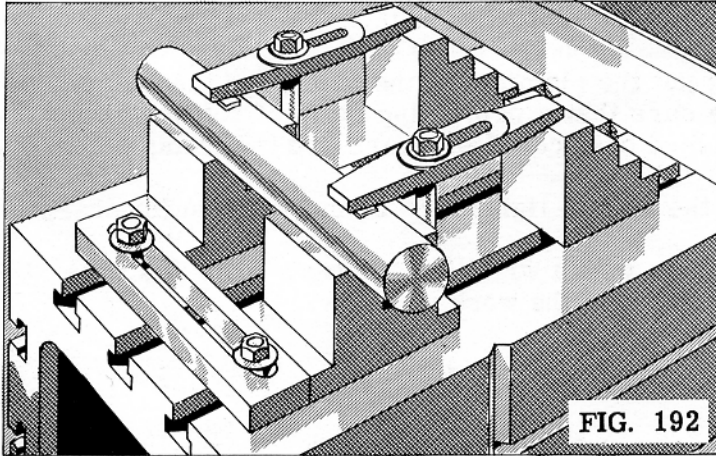

FIG. 192
8. Bolt a bar stop to the table and against the forward edges of the V-blocks (Fig. 192). This will hold the V-blocks in alignment and, in addition, will act as a stop to take the thrust of the tool.